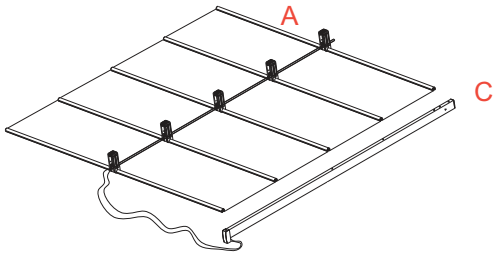

Fig. 2A
(Fig. 2A) Nr 1 **sliding canopy (A)** with the **crossbar (C)**